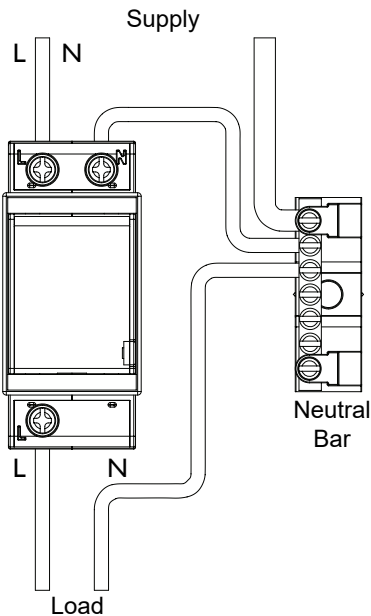

Figure 1: DB wiring
3. Connect the time switch according to figure 1 or 2.